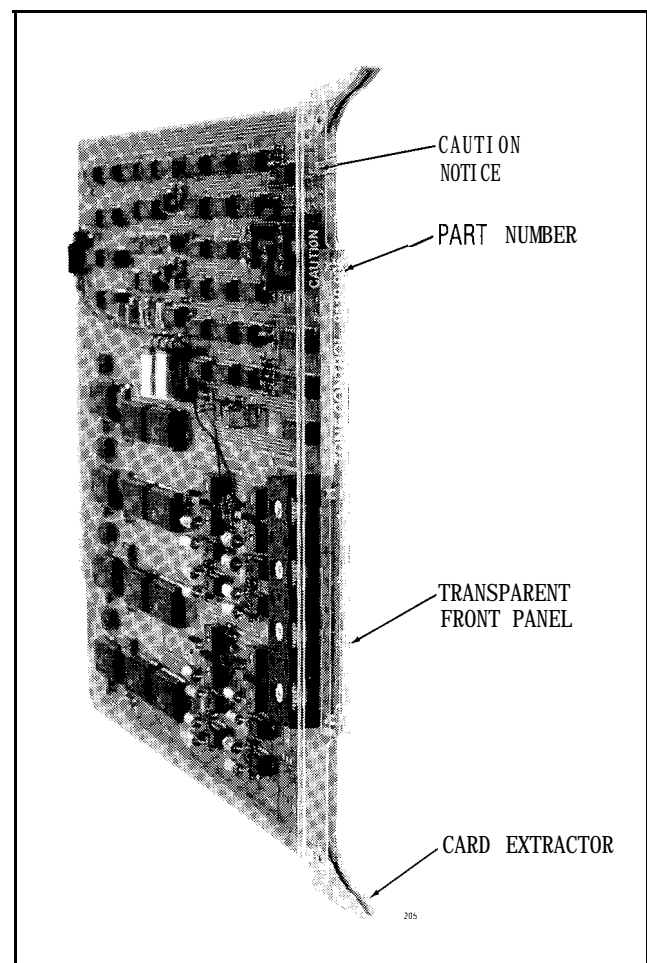

Fig. 2-5 Typical Printed Circuit Card
2.10 All circuit cards (see Fig. 2-5) within the SX-100 are identical in construction and consist of a fiberglass board with printed wiring patterns on both of its faces. Rivetted to the front of each board is a transparent faceplate which allows the LEDs mounted on the front of the boards to be easily seen. The two color-coded